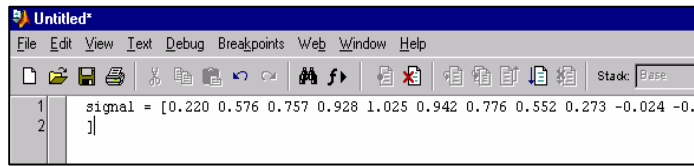

Figure 2
9. Give your row data vector a name (for example, signal) as shown in Figure 2.
12. You can run your m-file by typing its name at the command prompt. If you run the m-file shown in Figure 2, your data will be displayed.